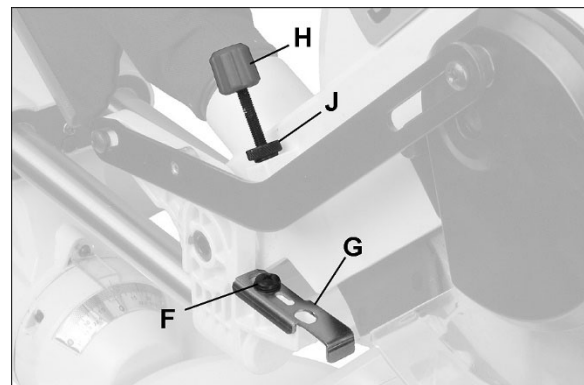

Figure 8-8
2. Loosen screw (F, Figure 8-8) and slide plate (G) outward. Retighten screw.
4. Hold cutting head in this position and turn stop screw (H) until it touches plate (G).
5. Rotate knurled nut (J) against casting to secure setting.